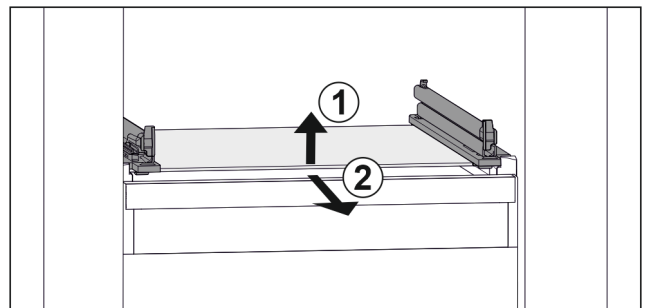

Fig. 139 Example illustration of glass shelf
- ▶ Lift glass shelf at the front. Fig. 139 (1)
- ▶ Take out glass shelf to the front. Fig. 139 (2)